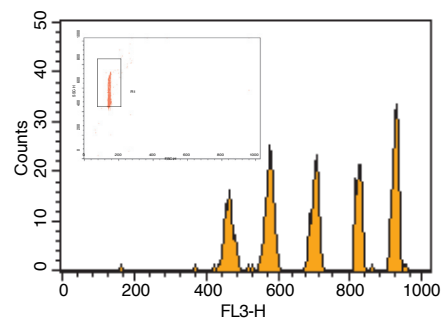

Figure 6
3. Using your flow cytometry analysis software, determine which bead populations produced positive results. The use of "back-gating" may simplify this task. (Figure 6)